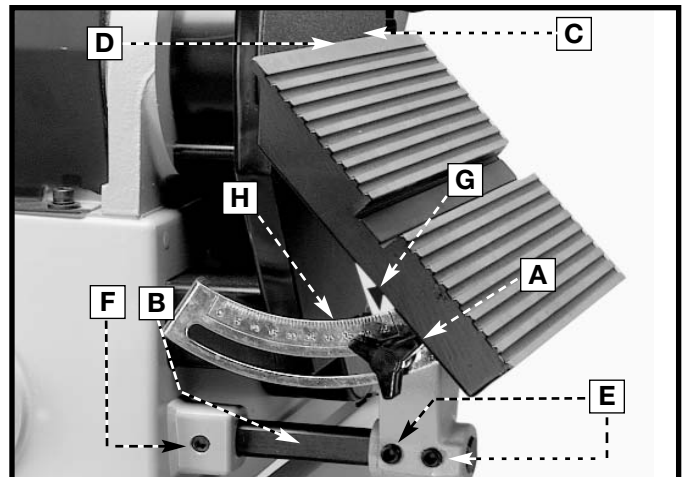

Fig. 24
You can tilt the table 45 degrees by loosening the table lock knob (A) Fig. 24. Tighten the table lock knob after tilting the table. A scale (H) is provided with a pointer (G) to help you accurately tilt the table to the desired angle.
⚠ WARNING After tilting, the table assembly must be repositioned on the support rod (B) FIG. 24 to provide a maximum of 1/16" distance between the sanding disc (C), and the edge (D) of the table, to avoid trapping the workpiece or fingers between the disc and table. To reposition the table assembly, loosen two screws (E) and/or screw (F), move table assembly on rod (B), and tighten screws (E) and/or (F).